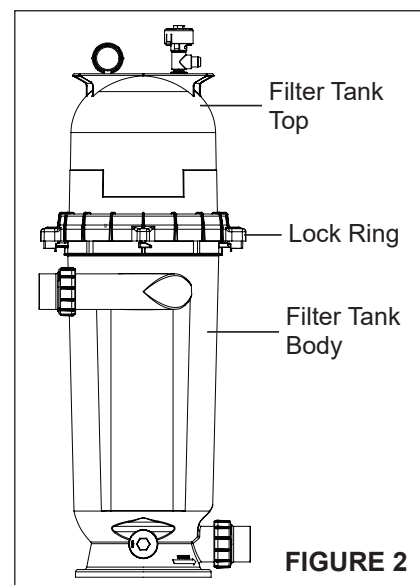

FIGURE 2
2. Be certain the O-ring is in position in the lower tank half. Place the filter lid over the lower tank half, making sure it is fully and firmly seated on the tank half, see **FIGURE 2**.